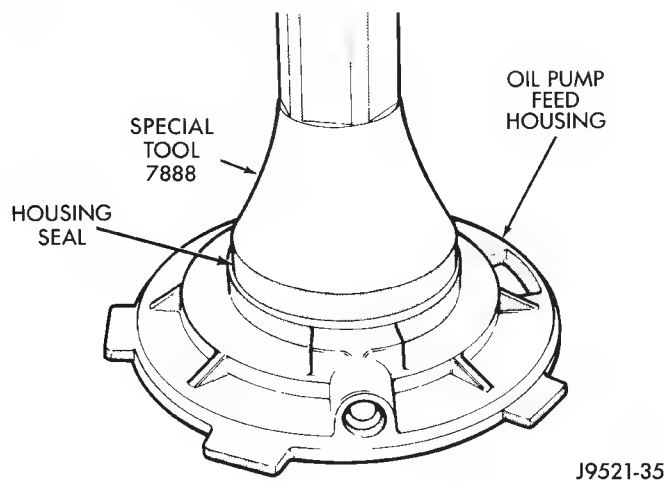

Fig. 71 Oil Pump Seal Installation
(56) Install new seal in oil pump feed housing with Special Tool 7888 (Fig. 71).